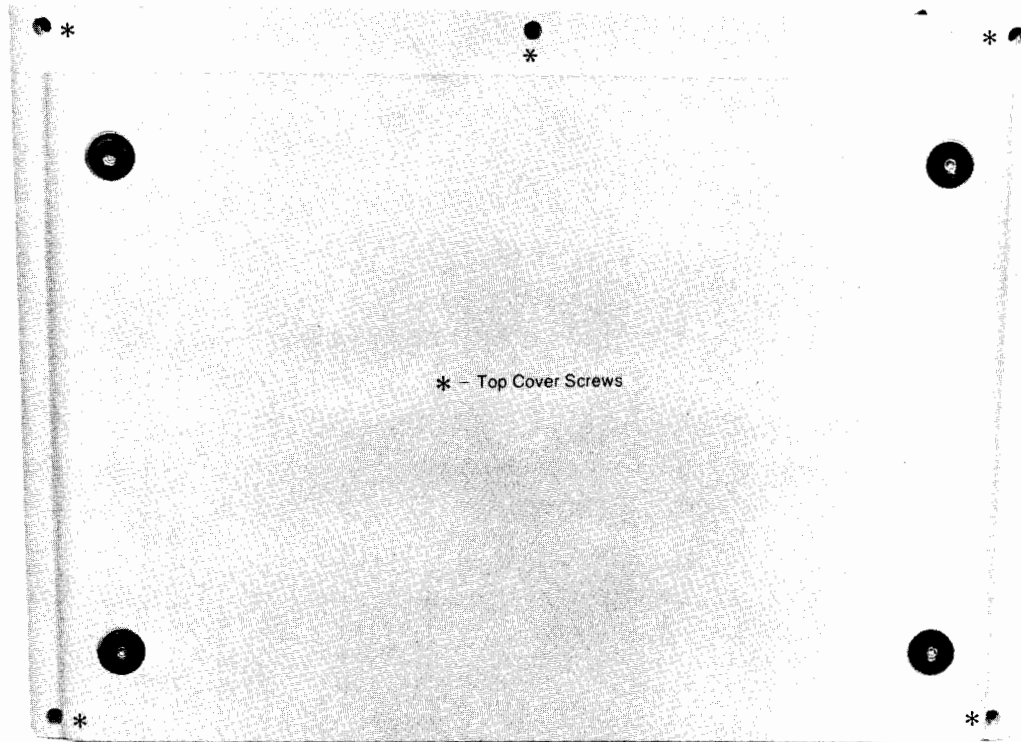

Figure 5-1. Top Cover Screws
4. Five screws secure the top cover to the printer (Refer to Figure 5-1). Remove the screws by placing the printer at the edge of a table to access the screws while the printer is on its feet (Figure 5-2).